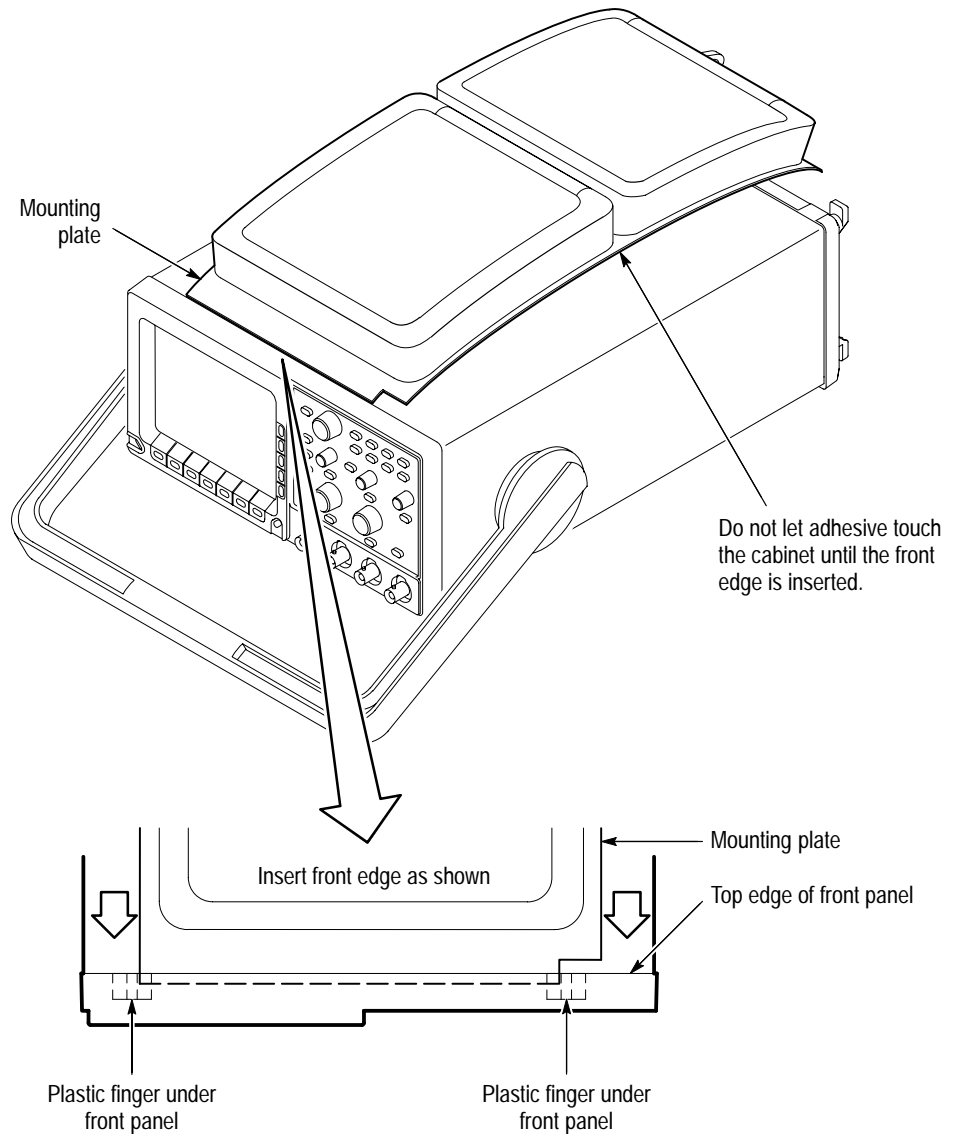

Figure 1: Inserting the front edge of the mounting plate
3. Position the pouch assembly above the cabinet and insert the front edge of the mounting plate (Figure 1).